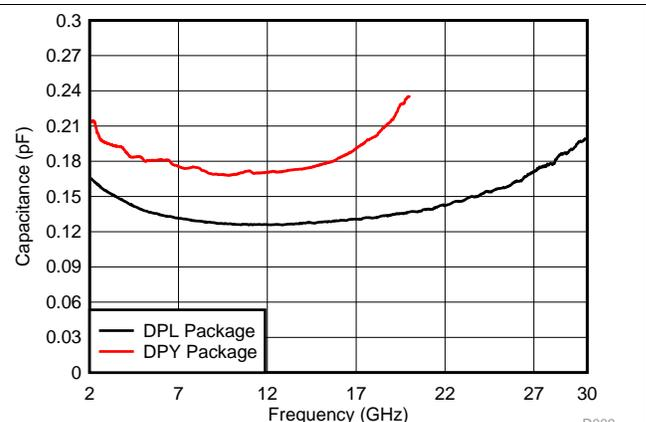

Figure 10. Capacitance vs. Frequency
• Added curves for the DPY package to <a href="#">Figure 10</a> and <a href="#">Figure 11</a> .....	6